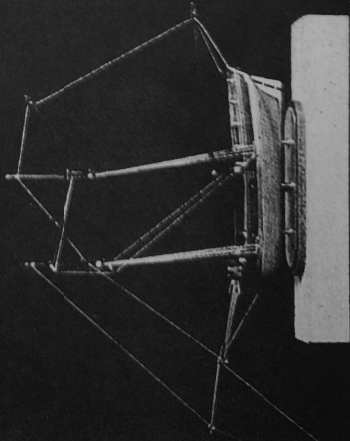

FIG. 31
N.B.) The main sail and top sail, along with their respective gaffs and boom, may be attached to the masts before attaching the masts to the deck (see also figure 31 and 34 on page 13). The asterisks indicate the exact position of each hole to be used. **BE CAREFUL!** For this stage, use thread R and follow the figures.